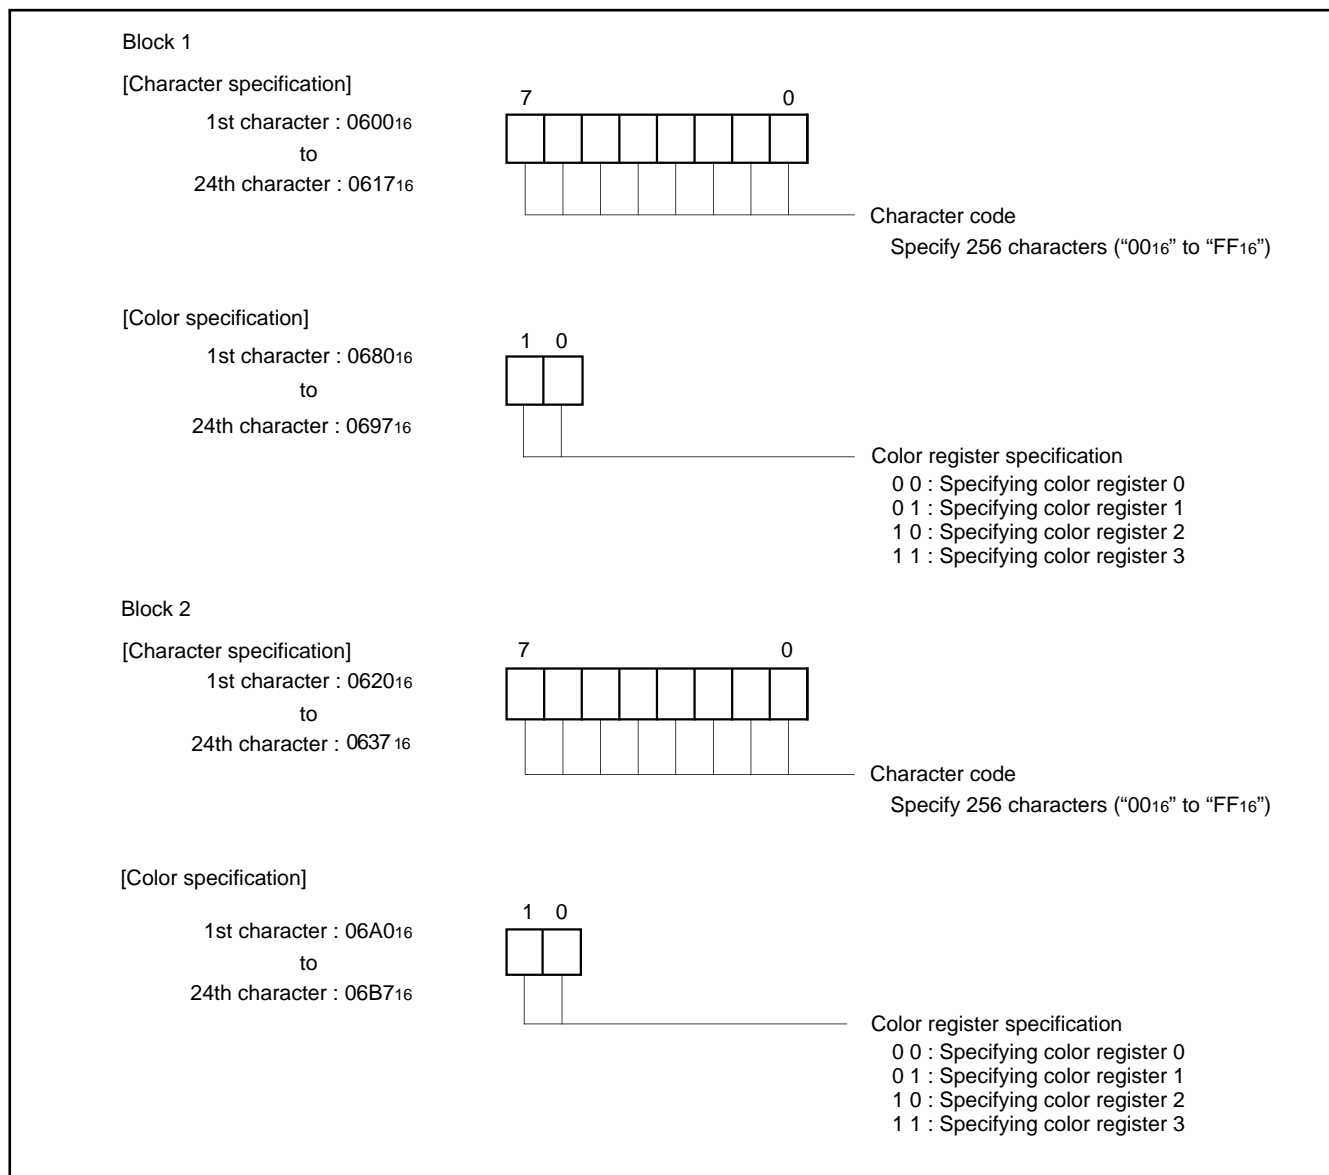

Fig. 45. Structure of CRT display RAM
For example, to display 1 character position (the left edge) in block 1, write the character code in address 0600₁₆ and write the color register No. to the low-order 2 bits (bits 0 and 1) in address 0680₁₆. The color register No. to be written here is one of the 4 color registers in which the color to be displayed is set in advance. For details on color registers, refer to (5) Color Registers. The structure of the CRT display RAM is shown in Figure 45.